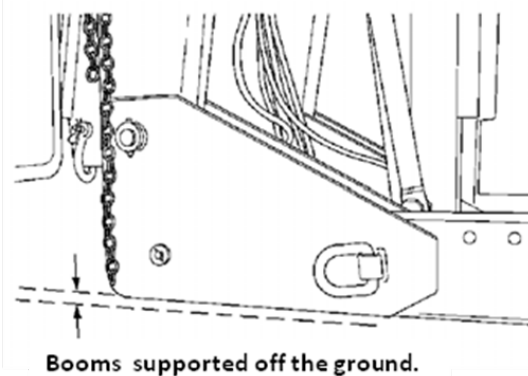

Figure 2 – Main frame support pad resting on the after frame of the prime mover. (Left side shown)
- Using the remote control, “EXTEND” the mast until the main frame rear support pads come to rest on the after frame of the prime mover and the booms have come off the ground slightly. (figure 2)